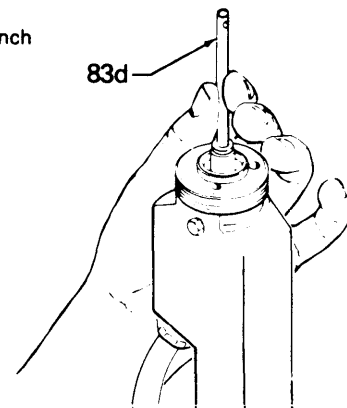

Fig 6
Electrode Resistor Replacement (See Fig 6)
Install the electrode resistor (55) with the wrench (83d) supplied. See Fig 6. Install the air cap and fluid tip as described in the Operation Section under **Clean the Air Cap and Fluid Tip**.